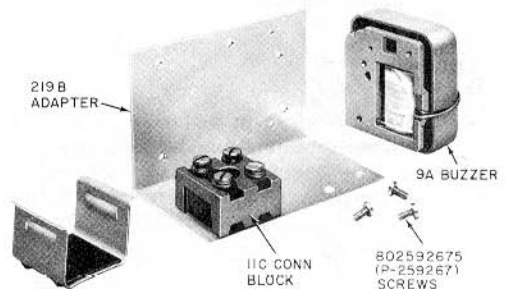

Fig. 4—9B Buzzer
* Consists of 9A buzzer plus 219B adapter and mounting screws (Fig. 4). This buzzer for ac operation only.